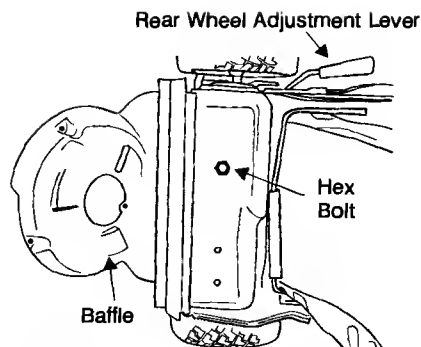

Figure 20
8. Remove the hex bolt holding the transmission to the mower housing. See figure 20.
9. Tilt the transmission forward and loosen the idler pulley bolt and locknut 1/2 turn using two 7/16" wrenches. See Figure 20.